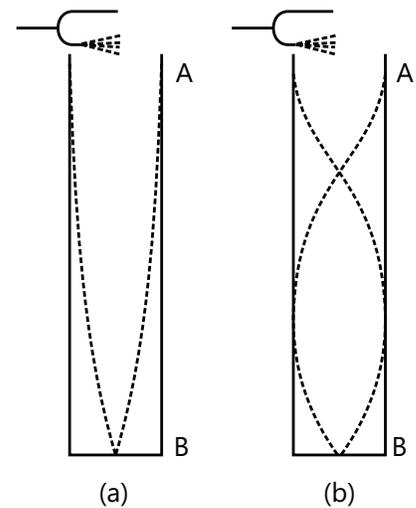

Figure 27.17
**Principle:** When a vibrating tuning fork of known frequency  $V$  is held over the top of an air column in a glass tube AB (Fig 27.17), a standing wave pattern can be formed in tube. Under the right conditions, a superposition between a forward moving and reflected wave occurs in the tube to cause resonance. This gives a very noticeable rise in the amplitude, or loudness, of the sound. In a closed organ pipe like a resonance tube, there is a zero amplitude point at the closed end (Fig 27.17). For resonance to occur, a node must be created at the closed end and an antinode must be created at the open end. Let the first loud sound be heard at length  $l_1$  of the air column [Fig 27.17. (a)], i.e., when the natural frequency of the air column of length  $l_1$  becomes equal to the natural frequency of the tuning fork, so that the air column vibrates with maximum amplitude. In fact, the length of the air column vibrates is slightly longer than the length of the air column in tube AB.